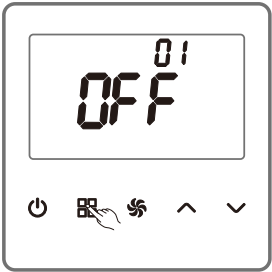

Figure 7
As shown in the Figure 7 (the function has been disabled), on the parameter setting page, press  (MODE) to switch the option number to 01.  (UP) or  (DOWN) is provided to allow a switch between ON and OFF (—enable or disable the function).